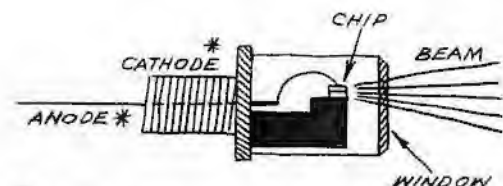

Fig. 1. How a typical laser diode works.
Most laser diodes are made by producing precise, sandwich-like junctions in wafers of gallium arsenide (GaAs) or other efficient light-producing semiconductors. The wafers are then cleaved into thin bars, which are sawed into individual laser chips several mils on a side (about the size of the dot on this letter "i"). The cleaving process gives each chip two perfectly parallel facets which serve as the mirrors. Individual chips are usually installed in a protective package with a plastic (OK) or glass (much better) window and a miniature, built-in heat sink (Fig. 1).